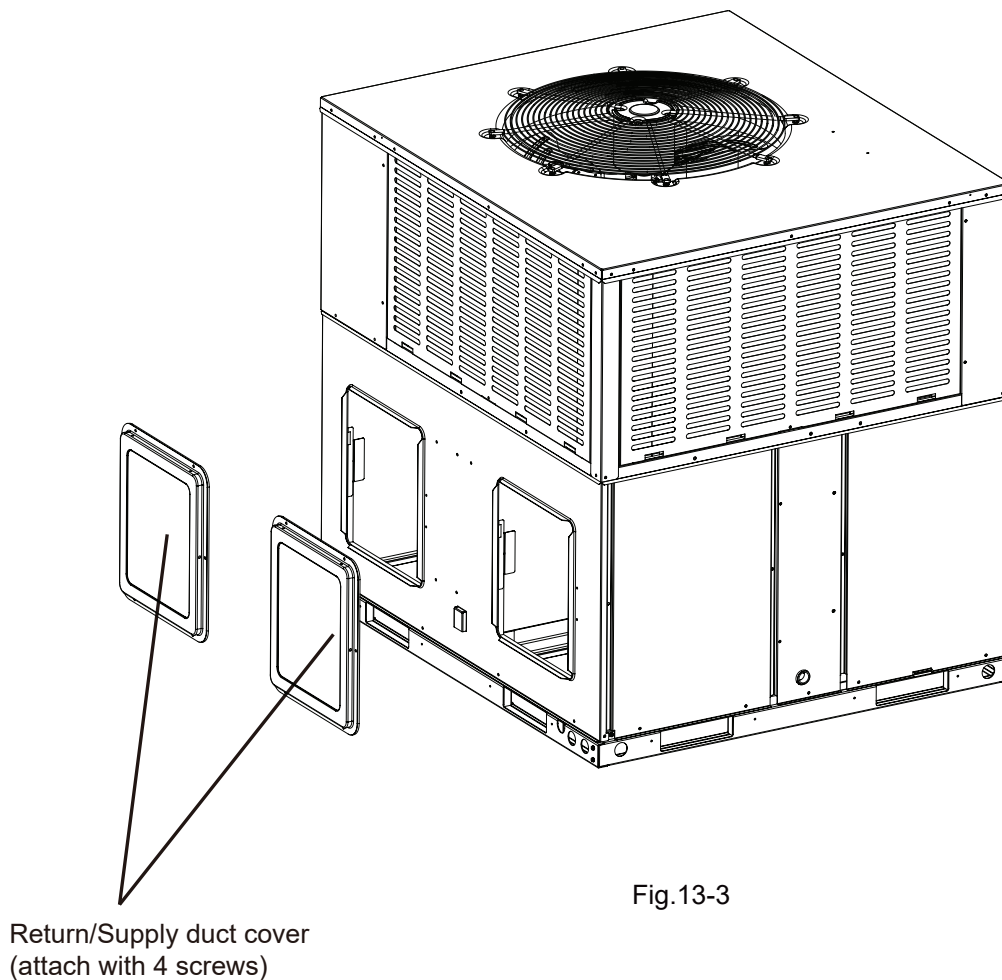

Fig.13-3
3. Place the covers on supply and return openings and use screws and washers provided to hold covers. See Fig.13-3.